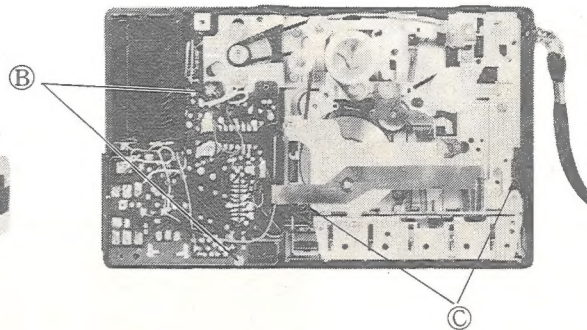

Fig. 3
Remove 2 screws (B) (See Fig. 3)
1. Remove 2 screws (C), and then remove 1 screw (D) to take out the plate spring. (See Fig. 3, 4)